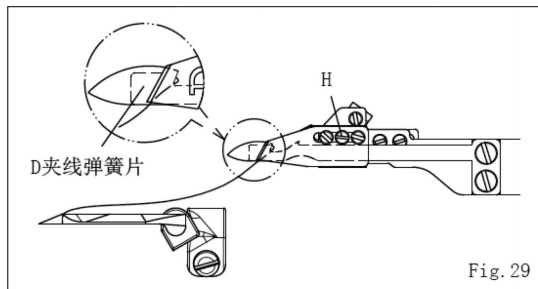

Fig. 29
3. 夹线弹簧片的压力调整：当下勾针线被切断后，下勾针这端之线头须被夹线弹簧片与活动刀片稳定夹住。调节夹线弹簧压力，可由螺丝(H)旋转调整。(顺时针方向压力增强，逆时针方向压力减弱)。(图 29)
3. When the looper thread has been cut off, the Clamp Spring and Moving Knife will clip the thread in stable. To increase the pressure of clipping thread turn the screw(H) clockwise and decrease the pressure turn the screw(H) counterclockwise. (Fig. 29)